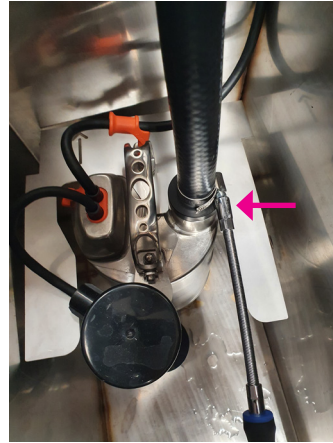

Figure 15
6. Cut the provided hose to suitable length from pump outlet to filter inlet at filter housing #1 (Fig. 15 & 16).
7. Connect the hose to the pump outlet and secure it with one of the provided hose clamps (Fig. 15).